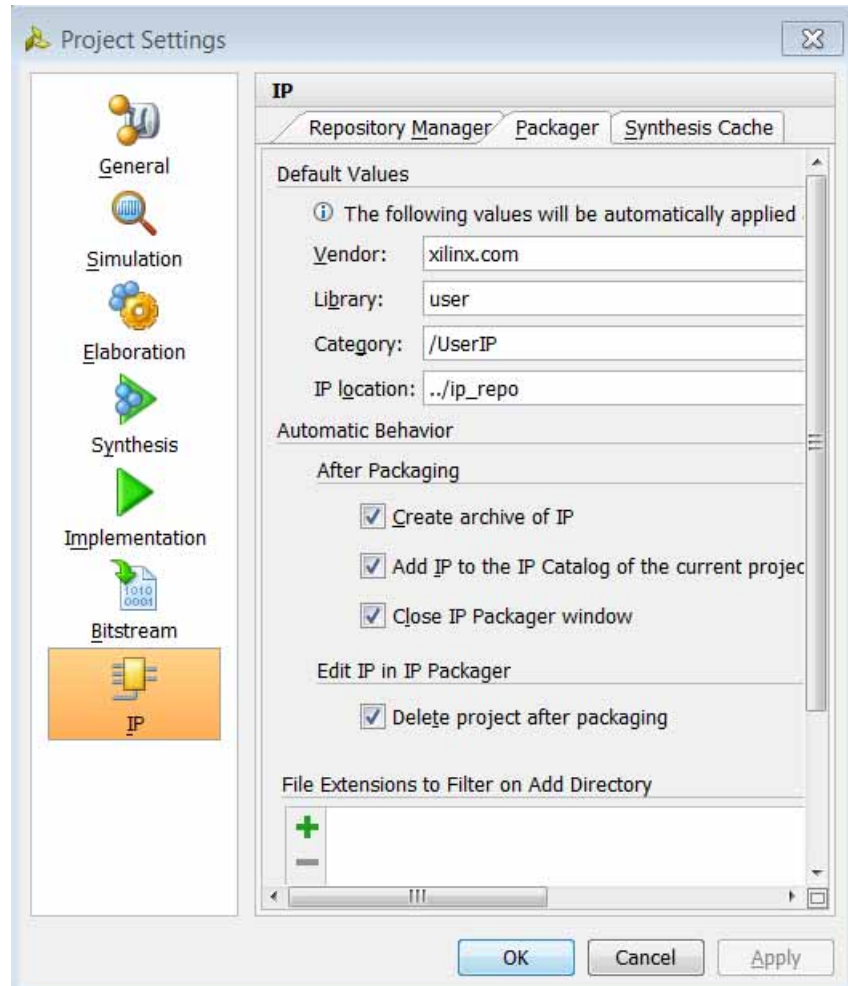

Figure 2-9: Vivado IP Packager Tool
The Vivado IP packager tool (Figure 2-9, page 21) in the Vivado IDE lets you prepare an Intellectual Property (IP) design for use in the Vivado IP Catalog. You can then instantiate this IP into a design in the Vivado Design Suite, including the Vivado IP integrator.